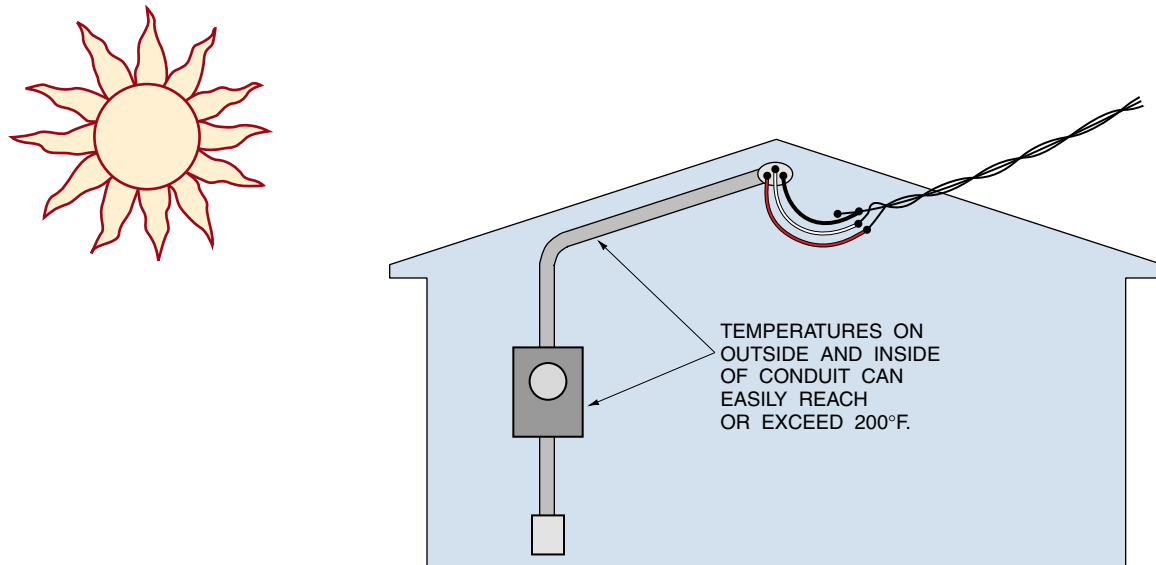

Figure 29-1 Example of high-temperature location.
In certain parts of the country, such as the southwestern desert climates where extremely hot temperatures are common, the AHJ will probably enforce 310.8(D) and 310.10 regarding temperature limitations of insulated conductors. This means that conductors in raceways or cables exposed to direct sunlight (on a roof or side of building) be corrected (derated) according to the “Correction Factors” found below Table 310.16. See Figure 29-1.